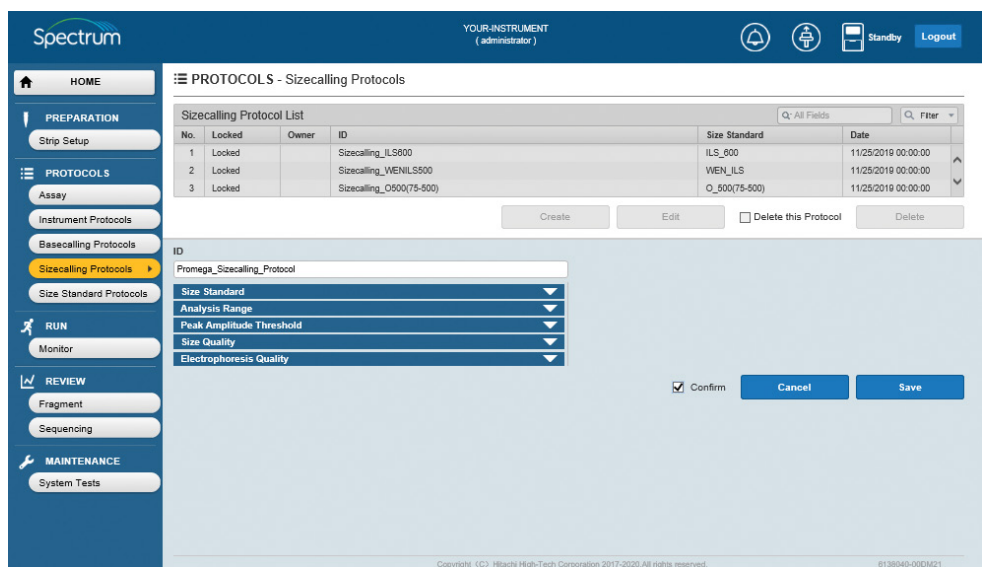

Figure 56. Saving a new Sizecalling Protocol.
8. Check the **Confirm** box and select **Save** (Figure 56). If no errors are detected, “Normal End” in a green horizontal box will appear on the screen. If errors are detected, either “Invalid data entered” or “The value is out of range” will appear in a red horizontal box and the software will indicate where the error is occurring.